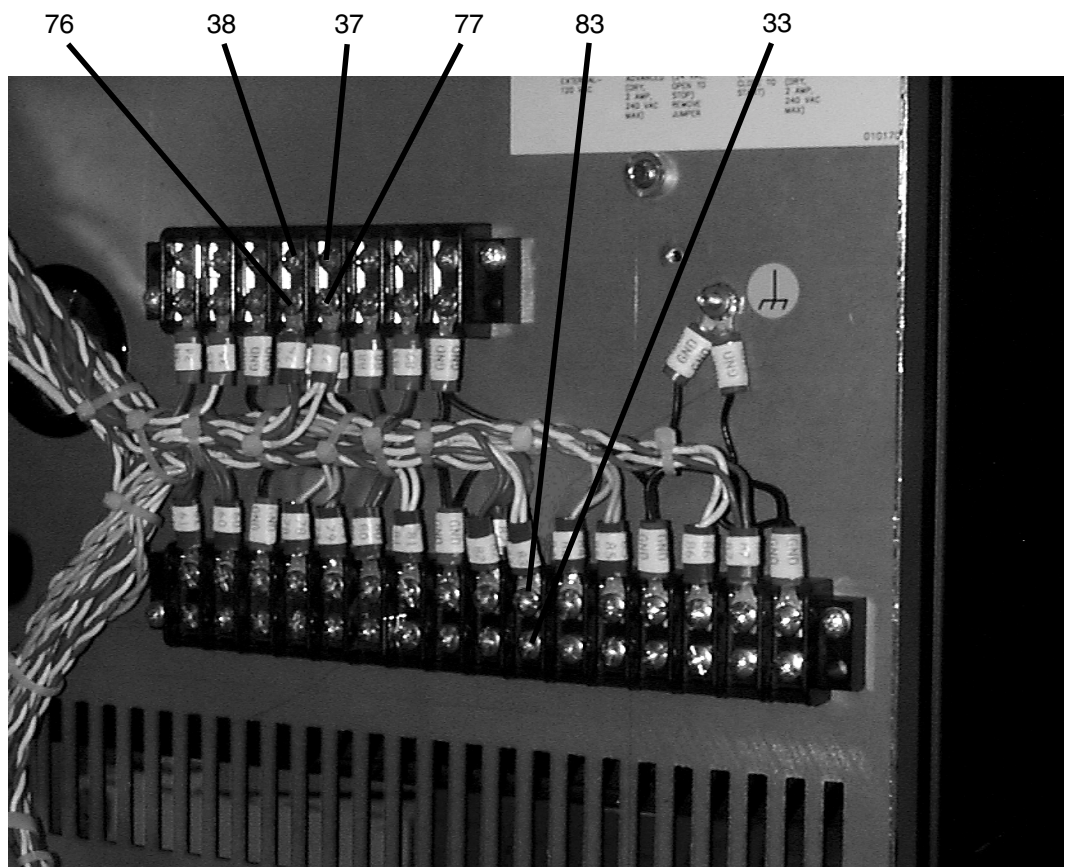

Figure 5 Remote Switch Connections to TB3 and TB4
8. At TB4, connect the remote switch white lead marked 38 to the terminal that the lead marked 76 (24 VAC Hot) is connected to. Also connect the remote switch black lead marked 37 to the terminal that the power supply lead marked 77 (24 VAC Neutral) is connected to. See Figure 5.